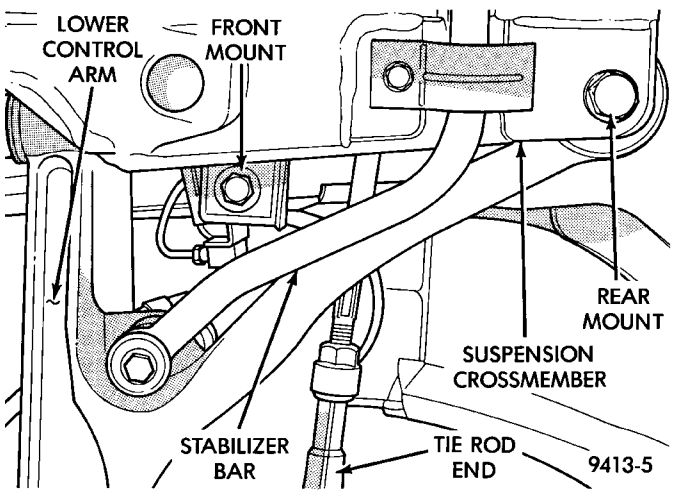

Fig. 1 Front Suspension Crossmember
- (1) Hoist and support vehicle on safety stands.
- (2) Using a suitable marking device, mark the outline of the suspension crossmember on the frame torque box around the rear mounting location.
- (3) Remove front wheels from vehicle.
- (4) Remove pinch bolts holding front ball joints to spindles.
- (5) Separate ball joints from spindles.
- (6) Position a suitable lifting device under the crossmember.
- (7) Remove bolts holding suspension crossmember to frame rails above lower control arms (Fig. 1).
- (8) Remove bolts holding crossmember to frame torque boxes and allow front of crossmember to swing down.
- (9) Remove bolts holding steering gear to crossmember.
- (10) Separate steering gear from crossmember.
- (11) Tie steering gear to a suitable structure above to support gear after crossmember is removed.
- (12) Separate front suspension crossmember from vehicle.